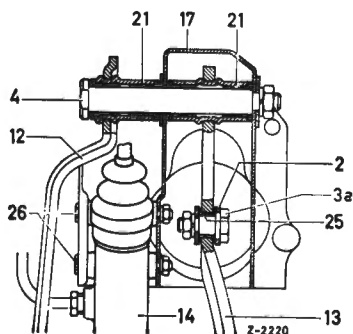

Fig. 29-1/7
7. Unscrew the hexagon nut from the adjusting screw (3a) and remove the adjusting screw from the brake pedal (13) in order to detach the piston rod (2) of the power brake from the brake pedal (Fig. 29-1/7).